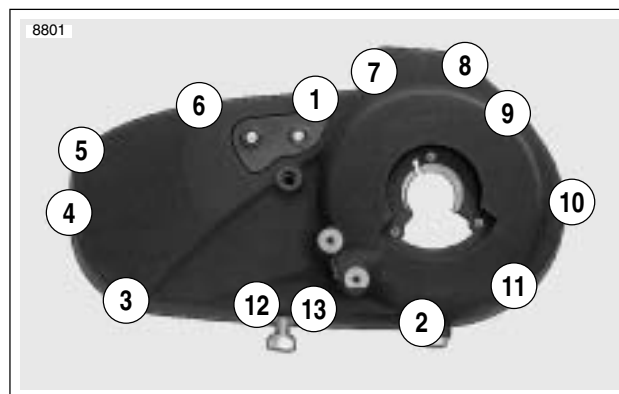

Figure 6-5. Primary Cover Tightening Sequence
4. See Figure 6-5. Tighten fasteners to 80-110 in-lbs (9-12.4 Nm) in sequence shown.